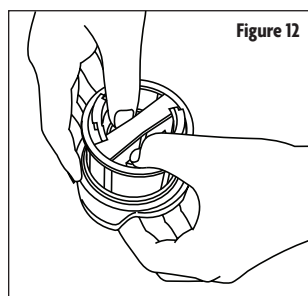

Figure 12
- a. **Coarse Filter:** Larger items that could block the drain are trapped in the coarse filter. To remove items caught by the coarse filter, first remove the Fine Filter (b), then turn it upside down and gently push on the bottom of the Coarse Filter (a) until it is released. (Refer to Figure 12.) Carefully empty filter and replace into position once clean.